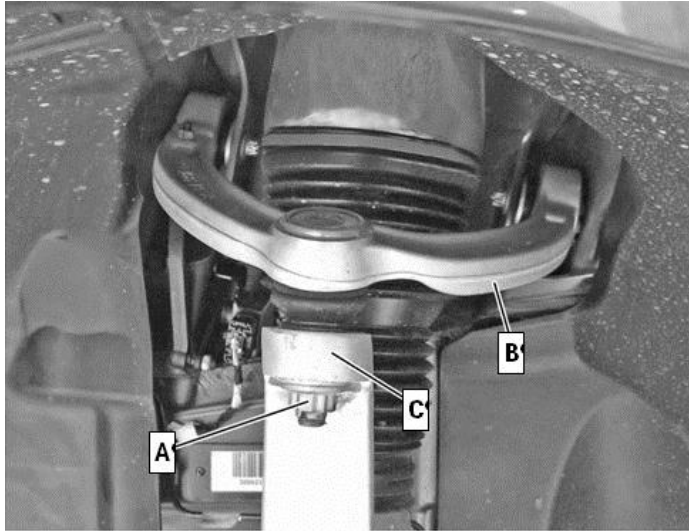

Figure 1
1. Check nut (A, Figure 1) for upper control arm (B, Figure 1) to steering knuckle (C) at front left and front right. Nut torque should be 110 Nm: